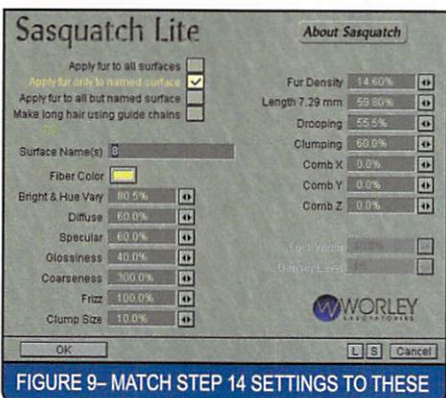

FIGURE 9- MATCH STEP 14 SETTINGS TO THESE
14. Add another SasLite Displacement (Step 11), and change values to match **FIGURE 9**. The Fiber Color should be a yellowish color (237, 251, 140), then "OK."